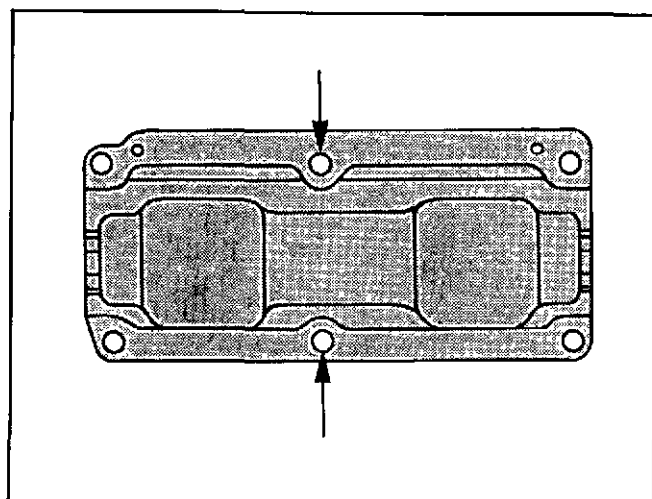

Fig. 0-44. Remove These Capscrews From The First And Third Housing.
1. Remove two capscrews and lockwashers as shown in Fig. 0-44, from the first and third housing of the assembly.